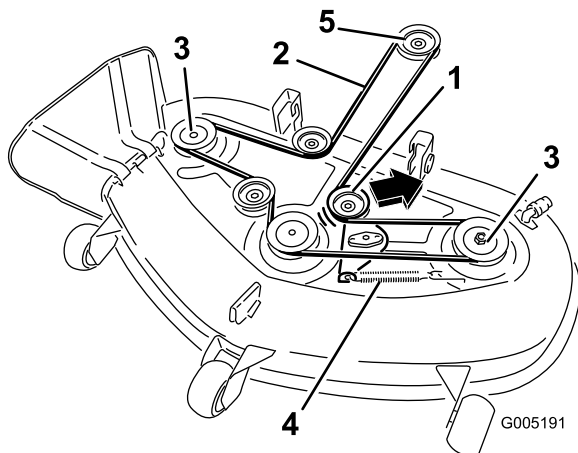

Figure 44
- Pull the idler pulley in the direction shown in Figure 44 and roll the belt off of the pulleys.
6. Route the new belt around the engine pulley and mower pulleys (Figure 44).
7. Pull the idler pulley in the direction shown in Figure 44 and route the belt onto the idler pulley (Figure 44).